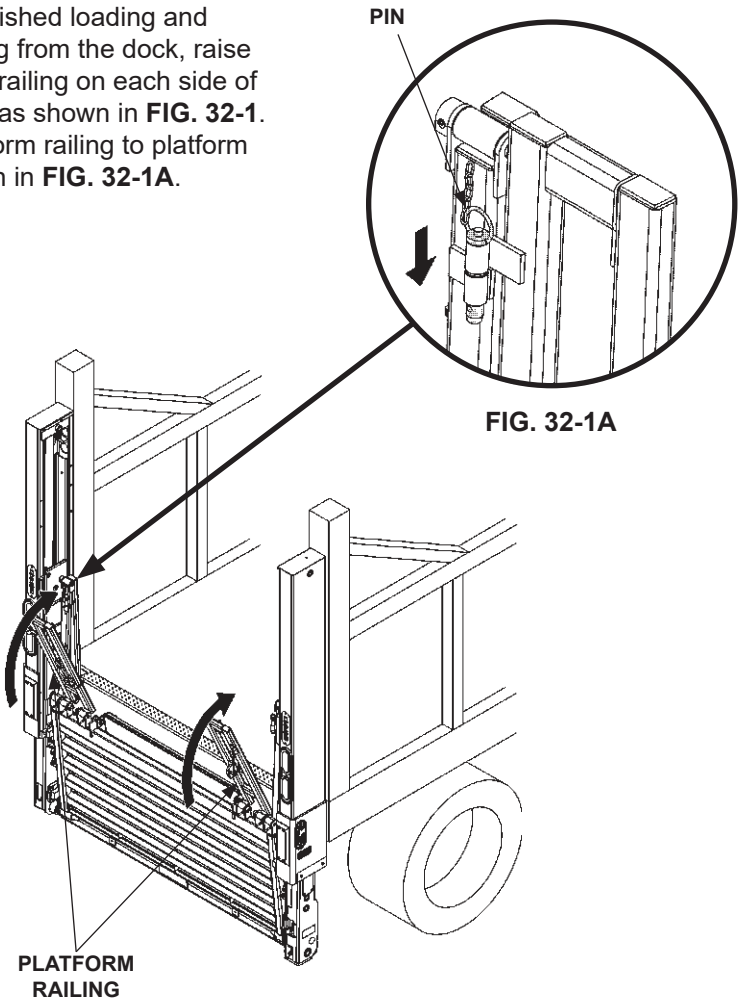

FIG. 32-1
4. When finished loading and unloading from the dock, raise platform railing on each side of platform as shown in **FIG. 32-1**. Pin platform railing to platform as shown in **FIG. 32-1A**.